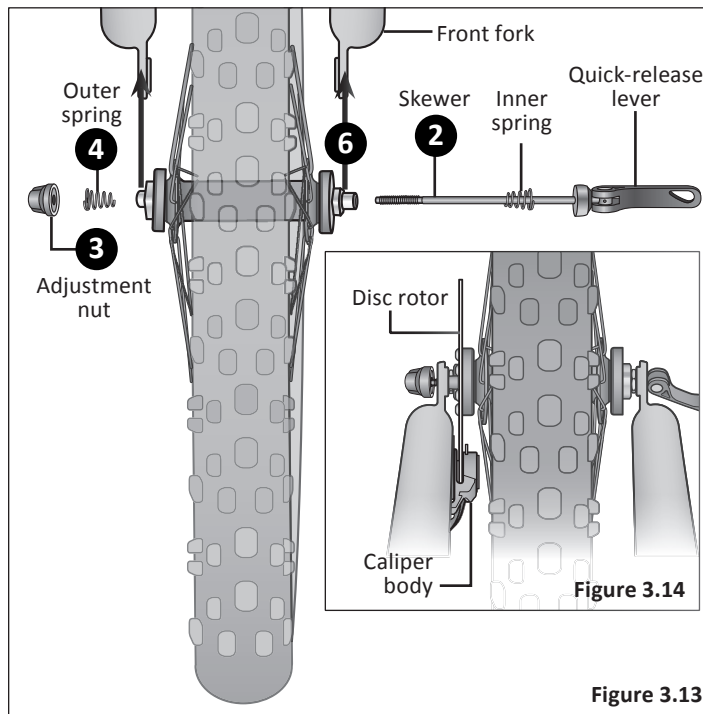

Figure 3.13
- 2 Locate the skewer from the small parts carton of your bicycle. **Figure 3.13**